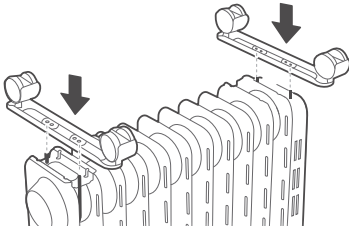

figure 1
02. As shown in figure 1, align the mounting holes in each castor assembly either with the two screws on the end of the radiator fins or the two screws at the bottom of the control box.